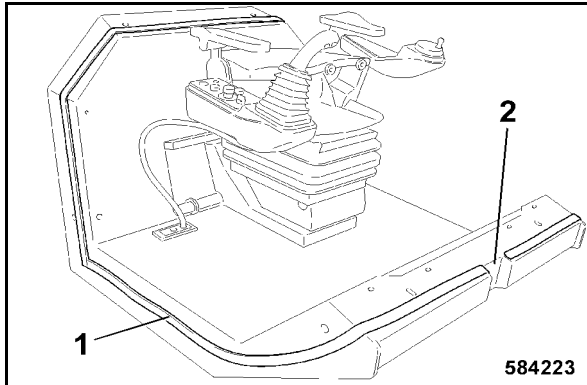

Fig. 207
- Stick the sealing tape 1 (Fig. 207) all around the operator's stand.
- Do not run the sealing tape across the front recess in the operator's stand (2), since this is the air inlet for the cabin ventilation.